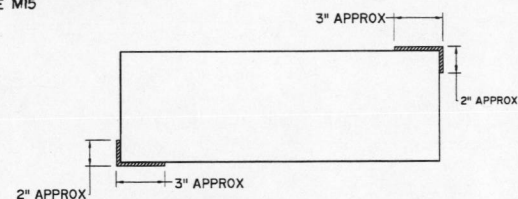

FIGURE 8
- M15- APPLY ORANGE STRIP MARKING ACROSS AN EDGE AS SHOWN FOR M816 IR CARTRIDGE ONLY. APPLY THE STRIP MARKING ON TWO DIAGONAL EDGES AS SHOWN IN FIG. 8 USING MATERIAL PER NOTE 4. THE STRIP WIDTH SHALL BE 3/4 INCH.